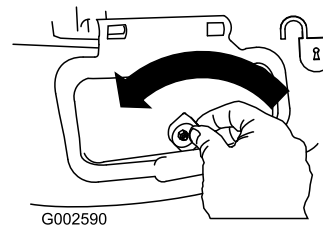

Figure 23
1. Unlock the side discharge door (Figure 23).